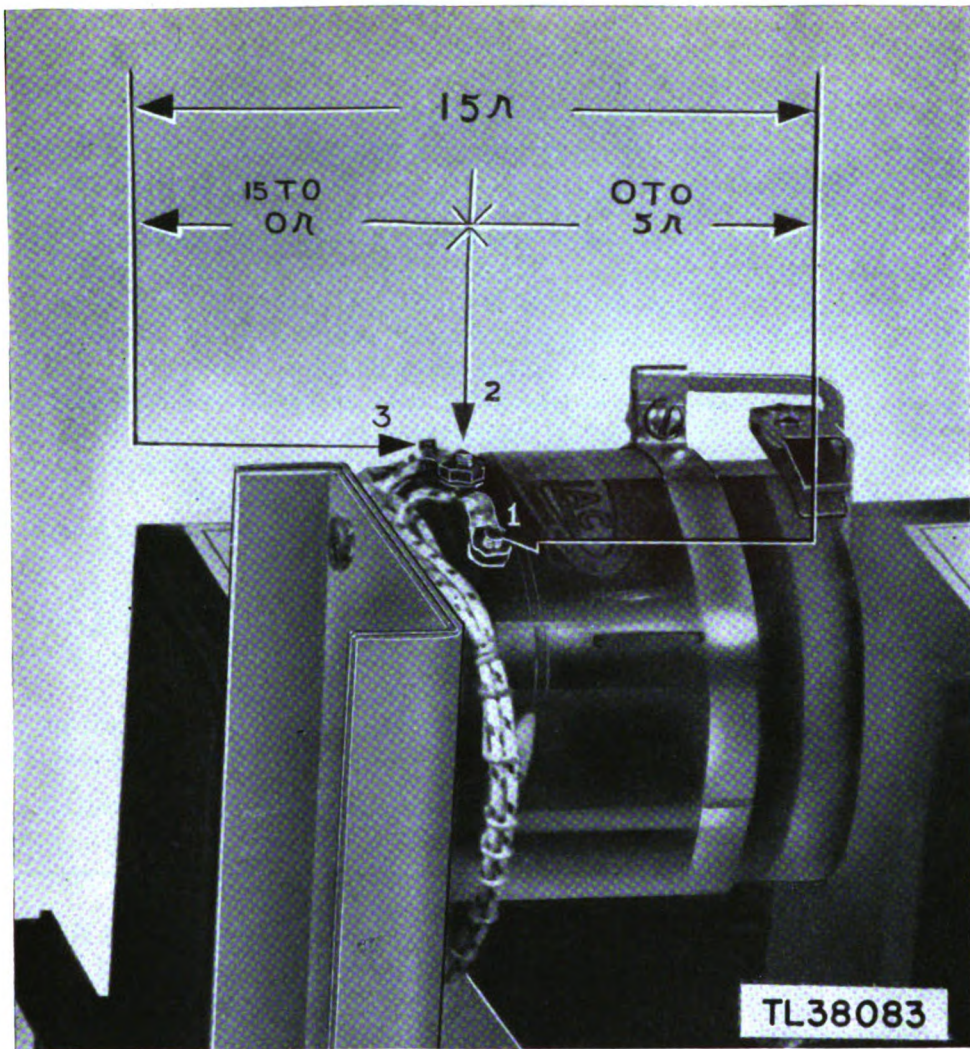

Figure 88. Variac measurements.
1. To determine if short is in variac, measure resistance of parallel combination of variac winding 136 and the primary transformer 131, between terminals 1 and 2 (fig. 88) of the variac. This resistance should vary from zero to 5 ohms as variac control knob is rotated clockwise.
2. If above test is not conclusive, measure resistance of variac 136 alone when control knob is fully counter-clockwise between terminals 1 and 3 (fig. 88). This resistance should be 15 ohms.
1. Turn HIGH VOLTAGE toggle switch to OFF position immediately (fig. 18). Measure resistance of parallel combination of variac winding 136 and primary of transformer 131, between terminals 1 and 2 (fig. 88) of the variac. This resistance should vary from zero to 5 ohms as variac control knob is rotated clockwise.
Partial short of variac 136 or transformer 131.	1. Press VOLTAGE CURRENT toggle switch 115 to current position. If current reading is normal, fault is in the high-voltage power supply (fig. 18). 2. Check capacitor 11 for a leak. 3. Measure resistance of parallel combination of variac winding 136 and transformer primary 131 between terminals 1 and 2 (fig. 88) of the variac. This resistance should vary evenly from zero to 5 ohms as variac control knob is rotated clockwise. 4. If above test is not conclusive, check primary resistance of transformer 131 (terminals 1 and 2 of transformer 131). This should be 6 ohms. Note. It is necessary to isolate transformer 131 from the variac 136 before making the measurement.